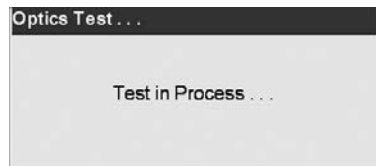

Fig. 7-17 Optics Test
- The system will now check the optics (Fig. 7-17).